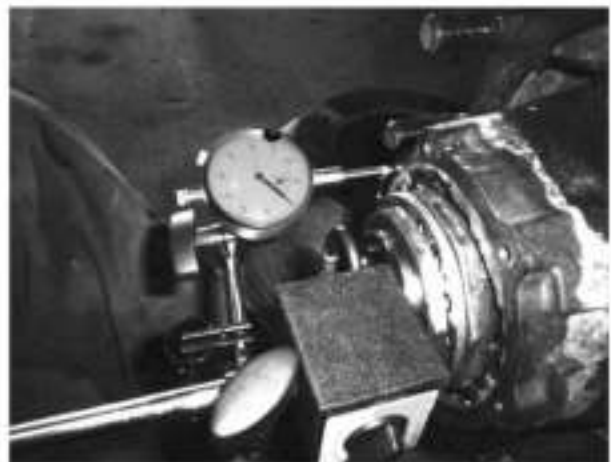

Figure 4: Checking end play
4. Attach dial indicator (Table 2) with magnetic base to flat surface at end of spindle (Figure 4).